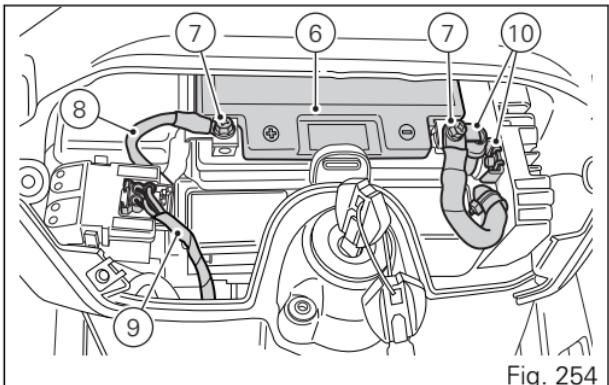

Fig. 254
Lay down the ABS positive cable (8), onto positive cable (9) and start screw (4) on these cables. Connect the two negative cables (10) to battery negative terminal, by starting the other screw (4). Tighten the terminal screws (4) and apply grease onto the battery terminals to prevent oxidation. Reinstall the battery (6) in the support, positioning the cables as shown in (Fig. 254). Position the cover (12) fastening the battery and tighten the screw (11).